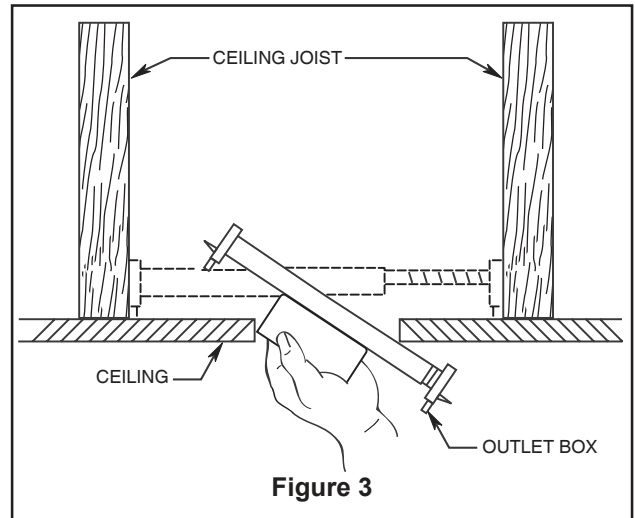

Figure 3
Your new ceiling fan will require a grounded electrical supply line of 120 volts AC, 60 HZ, 15 Amp Circuit. Electrical code requires use of a fan-rated outlet box to support the extra weight and motion associated with a ceiling fan. A fan-rated box will be labeled as such and typically supports up to a 70lb ceiling fan. Fan-Rated Outlet Boxes vary in ratings and design. Ensure the ratings of your ceiling fan outlet box meet the requirements for the ceiling fan being installed. Figure 1, Figure 2 and Figure 3 depicts different structural configurations that may be used for mounting the outlet box.
### Deep box with brace (Figure 3)
2. Remove the four screws and hex nuts with flat washer from the ceiling bracket assembly. Retain the screws, hex nuts and flat washers for later. (Figure 3)
3. Remove one of the three screws in the light plate assembly. Slightly loosen the remaining two screws. Assemble the socket plate assembly to the light plate assembly using the two key slots. Replace the third screw and securely tighten all three screws (Figure 3).
- 3.** Operating and using hand-held remote (Figure 3): Install two 3-volt batteries (included). If not using for long periods of time, remove battery to prevent damage to transmitter. Store the hand-held remote away from excessheat or humidity.